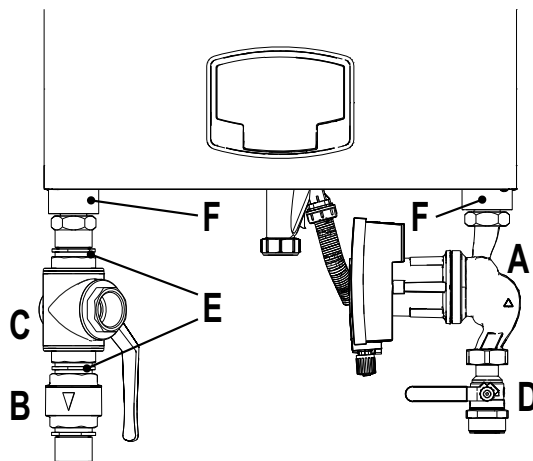

fig. 37- Boiler with installed kits
code 042070X0 - HIGH EFFICIENCY CIRCULATING PUMP KIT- 7m. (A - fig. 37)
code 042071X0 - HIGH EFFICIENCY CIRCULATING PUMP KIT- 10m. (A - fig. 37)
- 1 NON-RETURN VALVE - Female 1"1/2 (B - fig. 37)**
- 2 3-Way FAUCET - Female 1"1/2 (C - fig. 37)**
- 3 FAUCET Male/Female 1"1/2 (D - fig. 37)**
- 4 CONNECTION NIPPLE 1"1/2 (E - fig. 37)**
- 5 Flow and Return connection pipes 1"1/2 (F - fig. 37)**